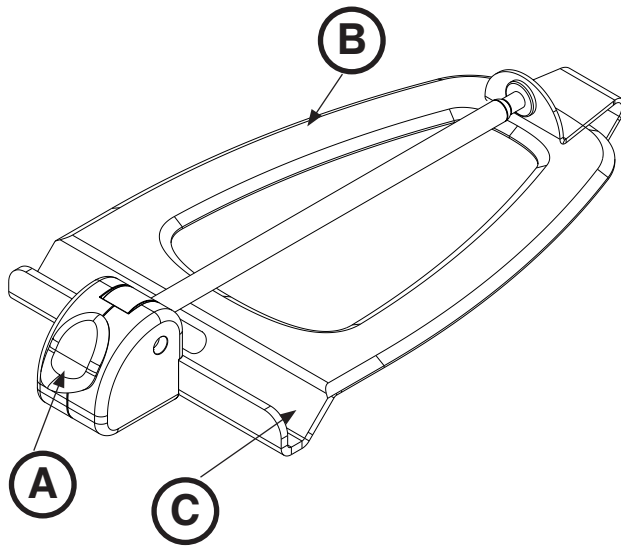
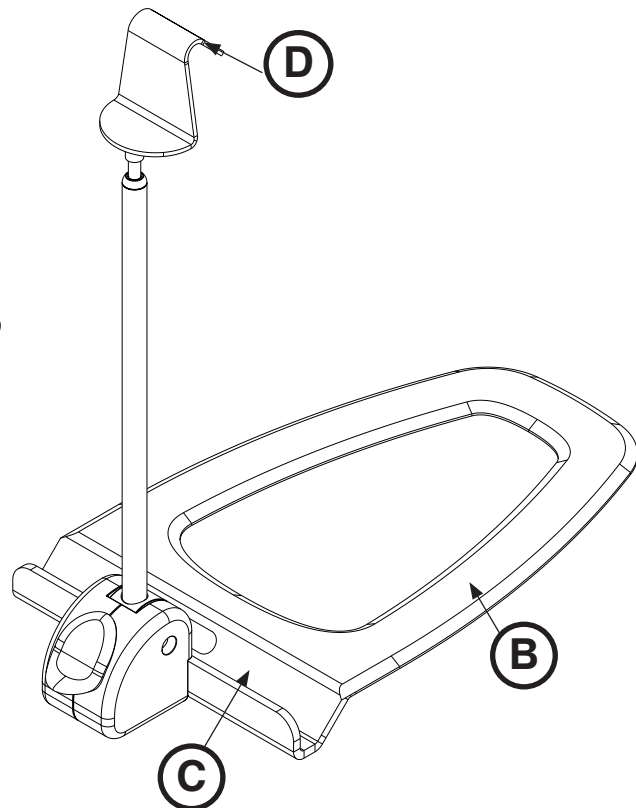

Figure 56: Lateral Cassette Holder
Figure 57: Lateral Cassette Holder
1. Press down on the yellow release button (A) to open the lateral cassette holder (Figure 56).
2. Slide the flat base (B) between the mattress and the patient platform (Figure X).
4. Place the X-ray cassette in the cassette canal (C) (Figure 57).
5. Pull up on the cassette hook (D) to adjust the height of the arm to fit snugly over the X-ray cassette to hold the cassette in place (Figure 57).
6. Pull up on the cassette hook (D) to remove the X-ray cassette from the lateral cassette holder (Figure 57).